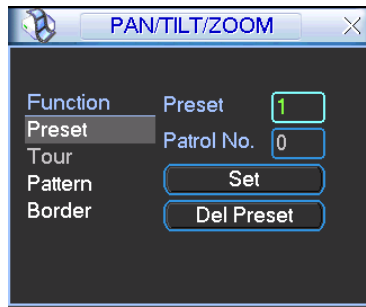
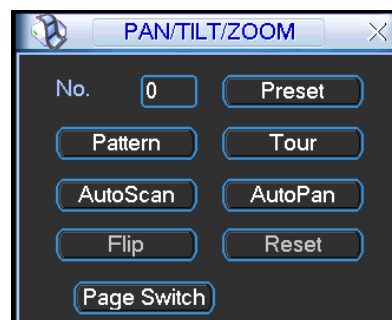

Figure 4-36
Figure 4-37
In Figure 4-33, please click the “set” button. The interface is shown as below. See Figure 4-36. Here you can set the following items:
In Figure 4-33, click page switch button, the interface is shown as in Figure 4-37.
- The following setups are usually operated in the Figure 4-33, Figure 4-36 and Figure 4-37 .
In Figure 4-36, click preset button and input preset number. The interface is shown as in Figure 4-38.
In Figure 4-37, please input preset number in the No. blank, and click preset button.
In Figure 4-36, click patrol button. The interface is shown as in Figure 4-39. Input preset number and add this preset to a patrol (tour). For each patrol (tour), you can input max 80 presets.
In Figure 4-36, input patrol (tour) number in the No. blank and click patrol button
In Figure 4-36, click pattern button and then click “begin” button. The interface is shown as in Figure 4-40. Then you can go to Figure 4-33 to modify zoom, focus, and iris.
In Figure 4-37, input mode value in the No. blank, and click pattern button.
In Figure 4-36, click border button. The interface is shown as in Figure 4-41.
In Figure 4-37, click “Auto Scan” button, the system begins auto scan. Correspondingly, the auto scan button becomes Stop button. Click stop button to terminate scan operation.
In Figure 4-37, click page switch button, you can see an interface is shown as below. See Figure 4-42. Here you can set auxiliary function. The aux value has relationship with the Aux button of the decoder.